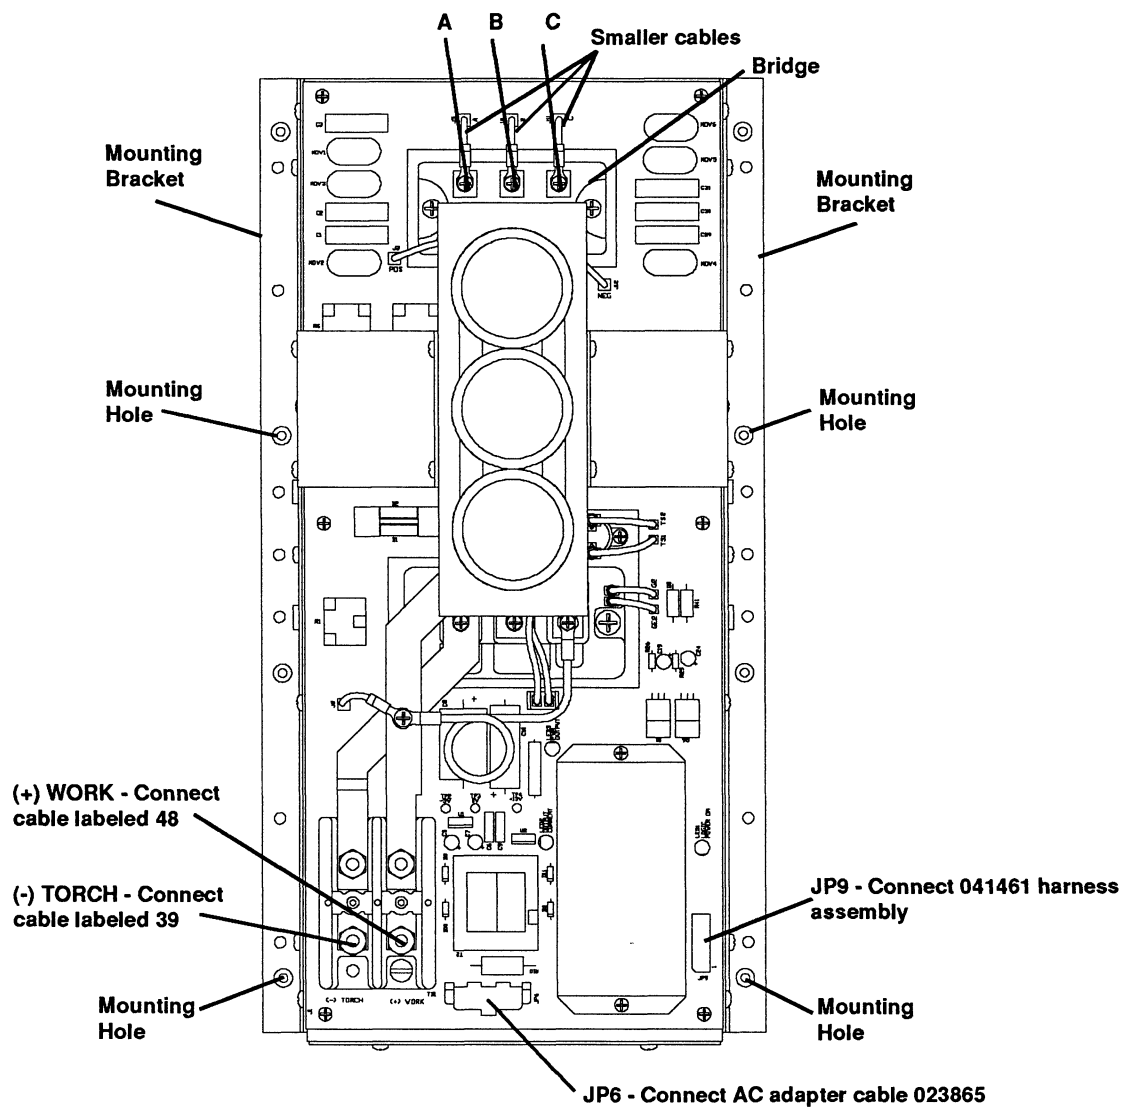

Figure 2-4 - CH130 Chopper Assembly
3. Position new chopper with large capacitors up as in Fig. 2-4 and line up mounting holes from the new chopper assembly to the lower four holes on the front panel of the power supply. Note: The chopper mounting brackets are universal, make sure the brackets are mounted as shown in Fig. 2-4. If not, remove the six screws (three each side) and remount the brackets as shown in Fig. 2-4. Screw new chopper in place.
4. Remove smaller cables from chopper to bridge and connect three-phase input cables labeled C, B and A (in that order) to the bridge of the new chopper. Replace smaller cables from chopper on top of larger cables and screw down. See Fig. 2-4.
5. Connect harness assembly with small PC board (041461) to JP9. See Figs. 2-4 & 2-1.
6. Connect AC adapter cable harness (023865) to JP6. See Figs. 2-4 & 2-1.